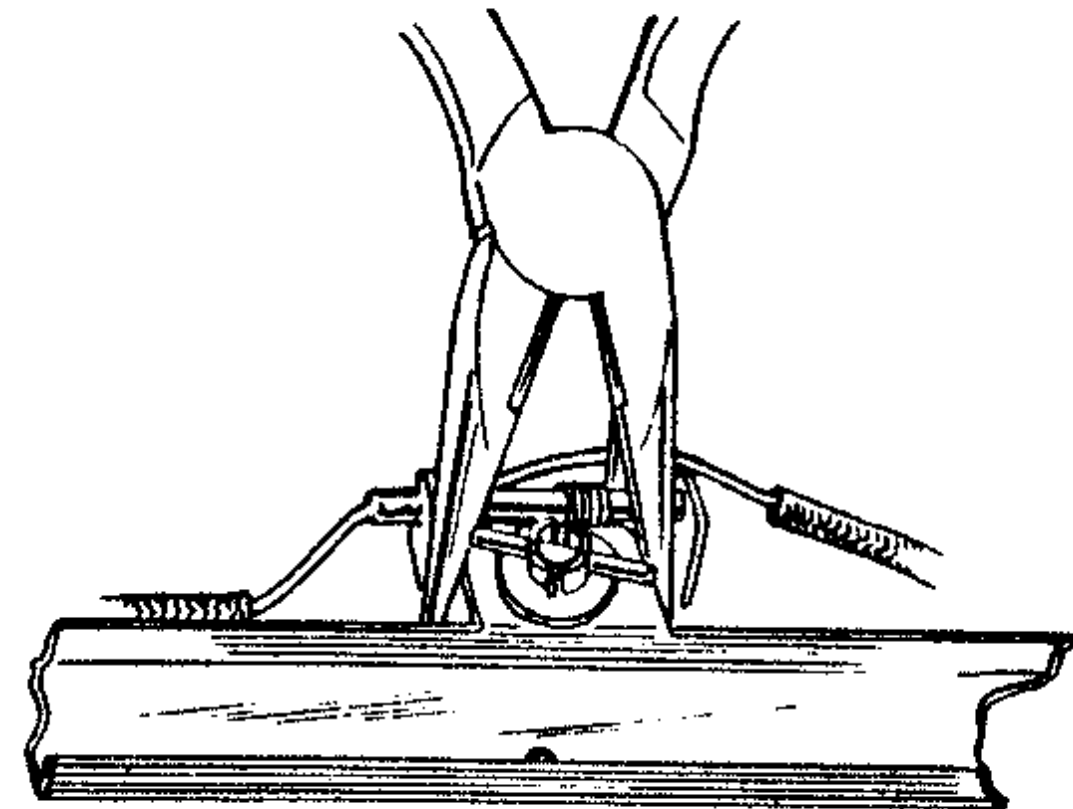

Figure 3 - Adjusting Plunger Alignment
3. *Tight Solenoid Plunger.* May cause poor vibration and improper action of overhead doors. Most often due to mis-alignment between the plunger and the brass plunger tube. Correct by bending or twisting plunger support carefully, as needed (Figure 3). To obtain more positive operation of overhead doors replace hollow plunger with solid plunger 3656-145 and plunger return spring 2020M-34, illustrated on page 4 of this section.